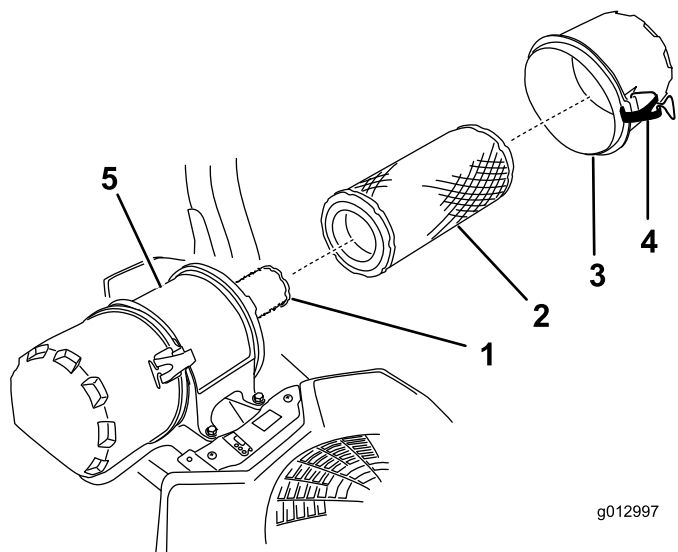

Figure 57
6. Release the latches on the air cleaner and pull the air-cleaner cover off the air-cleaner body (Figure 57).
8. Gently slide the primary filter out of the air-cleaner body (Figure 57).
2. If you are replacing the safety filter, carefully slide it into the filter body (Figure 57).
3. Carefully slide the primary filter over the safety filter (Figure 57).
4. Install the air-cleaner cover and secure the latches (Figure 57).